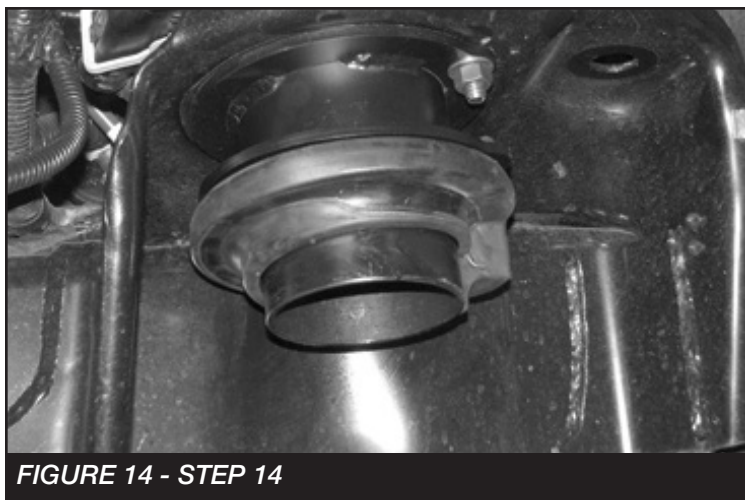

FIGURE 14 - STEP 14
14. Line the rubber indexing pin on the isolator up with the hole in the ring of the coil spacer and push together. **SEE FIGURE 14**